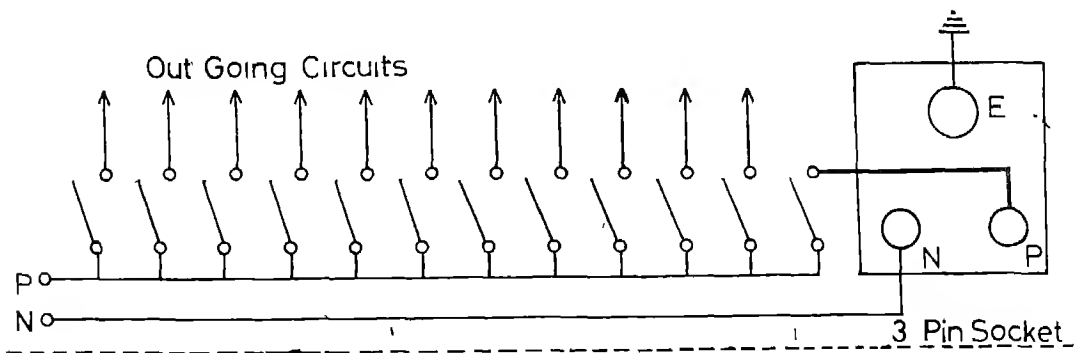

Fig. 4.3 Testing of Polarity of Switches and 3-pin Socket.
- (i) Open all the switchboards and check that all switches control the phase line. Fig. 4.3.